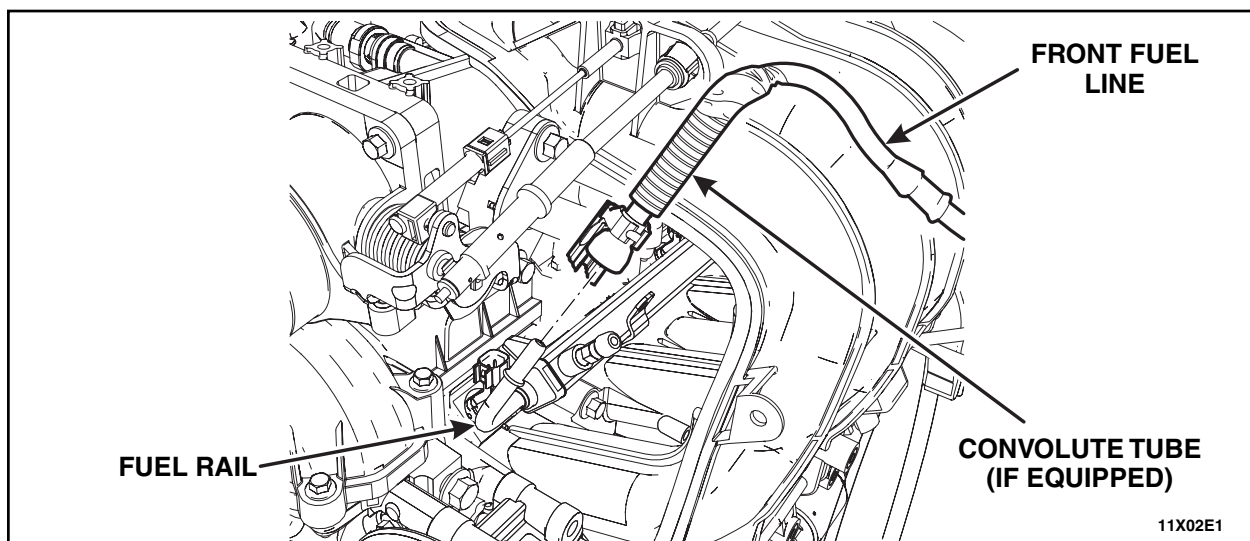

FIGURE 5
4. Disconnect the front fuel line-to-fuel rail spring lock coupling (See Figure 5). For additional information, refer to WSM, Section 310-00: Fuel System.
7. Connect the front fuel line-to-fuel rail spring lock coupling. See Figure 5.